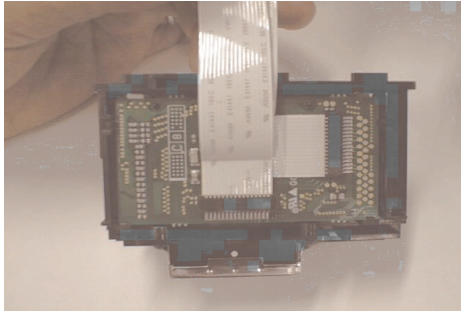

Figure 4-8. Head FFC Removal
- When removing the Head FFCs from the Printhead Board, do not pull two FFCs together. As shown in the figure below, one of the Head FFCs is inserted to the connector on the Head Board horizontally and if you pull this FFC upward, FFC may be broken. (See Figure 4-8, "Head FFC Removal")